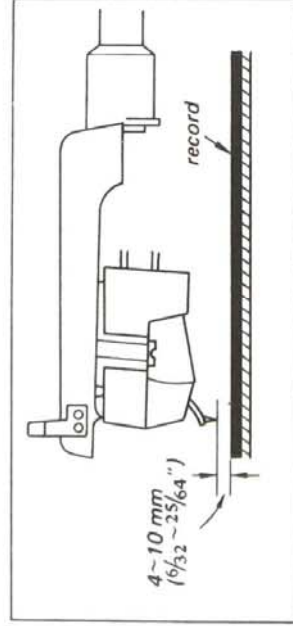

Fig. 3-1. Tonearm height adjustment (1)
1. When the tonearm automatically returns to its tonearm rest after playing, check to see that the clearance between the stylus tip and the record on the turntable is 4 to 10 mm ($\frac{6}{32}$ " to $\frac{25}{64}$ ") as shown in Fig. 3-1.
2. Confirm that the clearance between the stylus tip and the record on the turntable is 4 to 10 mm ($\frac{6}{32}$ " to $\frac{25}{64}$ ") as shown in Fig. 3-1.